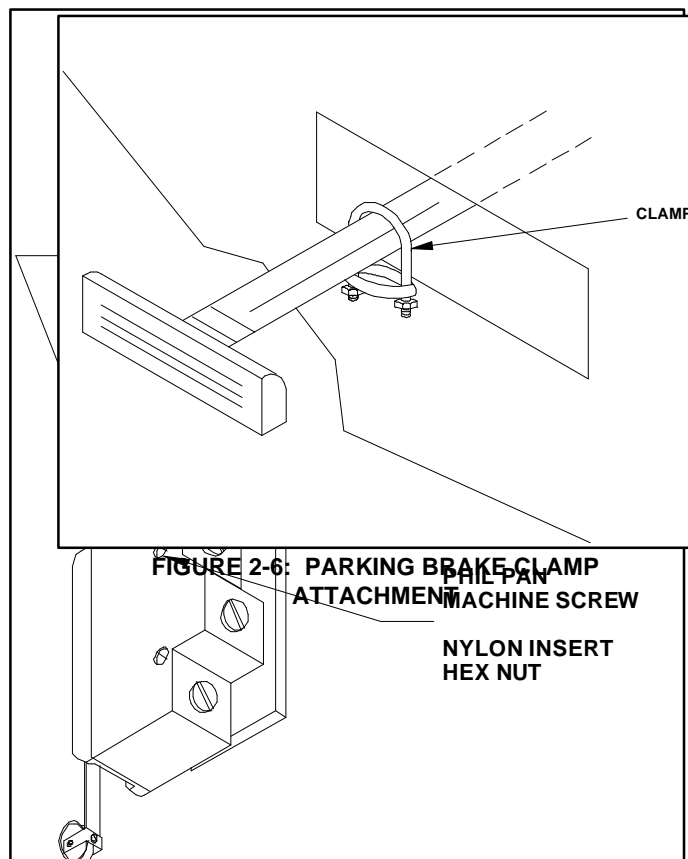

FIGURE 2-6: PARKING BRAKE CLAMP ATTACHMENT
9. Refer to **Figure 2-6**. Be certain the parking brake lever is in the released position and place the Power Parking Brake clamp on the parking brake handle. Secure the clamp to the parking brake handle and tighten.